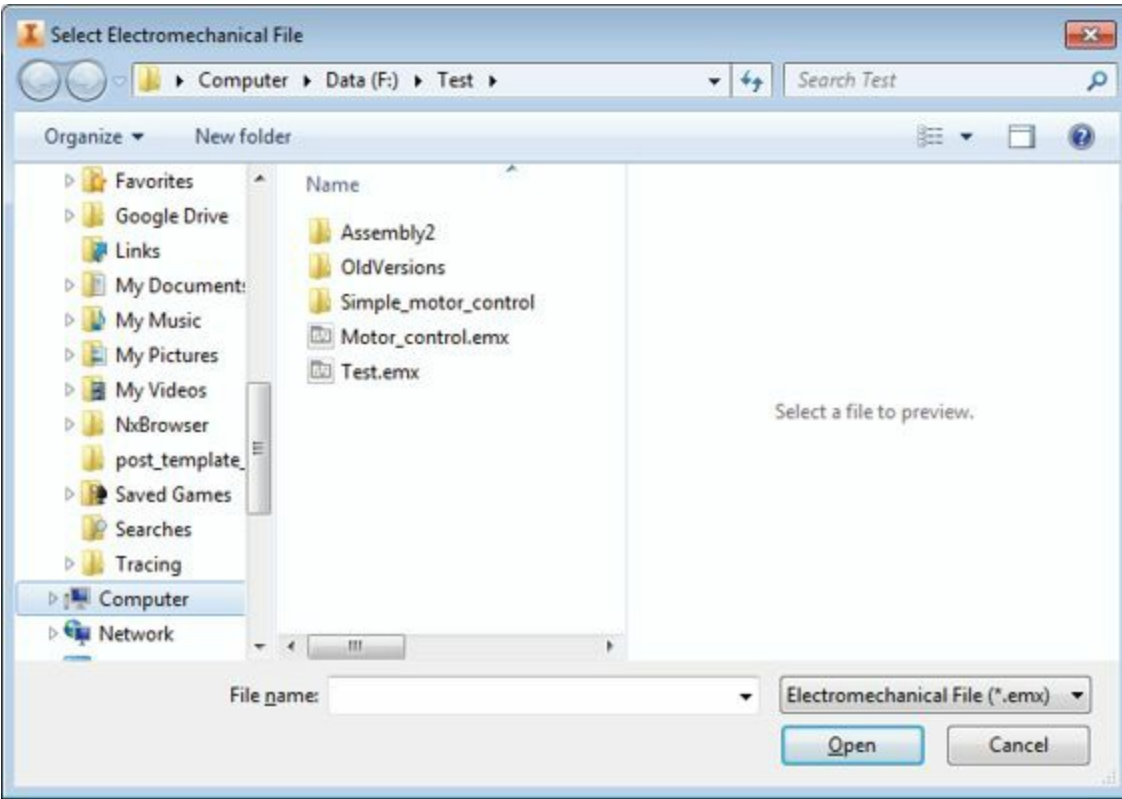

Figure-11. Select Electromechanical Link File dialog box
- Click on the **Link to an electromechanical file** button  from the dialog box. The **Select Electromechanical File** dialog box will be displayed as shown in Figure-11.